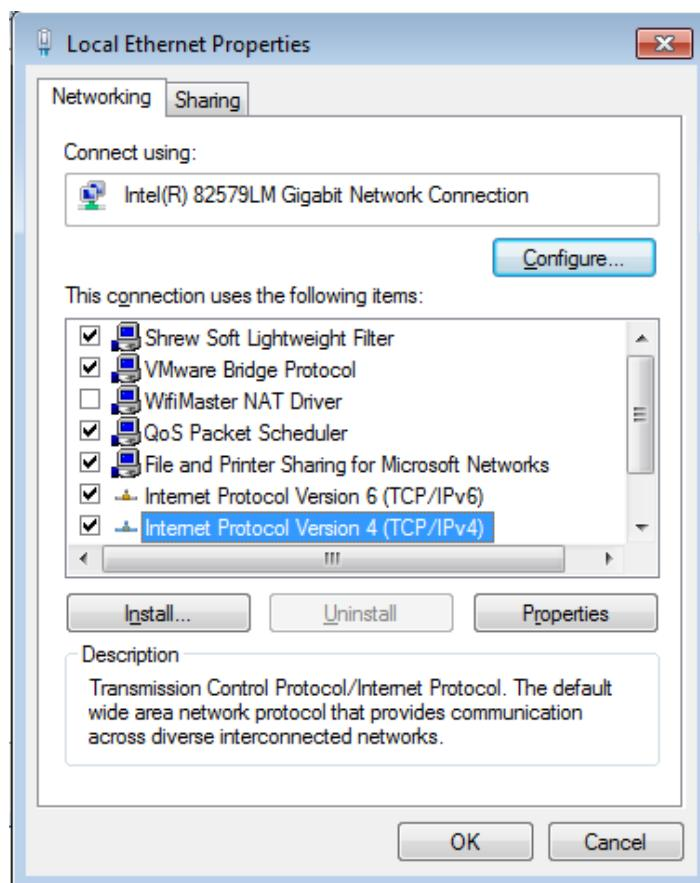

Figure 4-2 Local connection status
Step 2 Click Local Connection to open the Local Connection Status window, as shown in Figure 4-2.